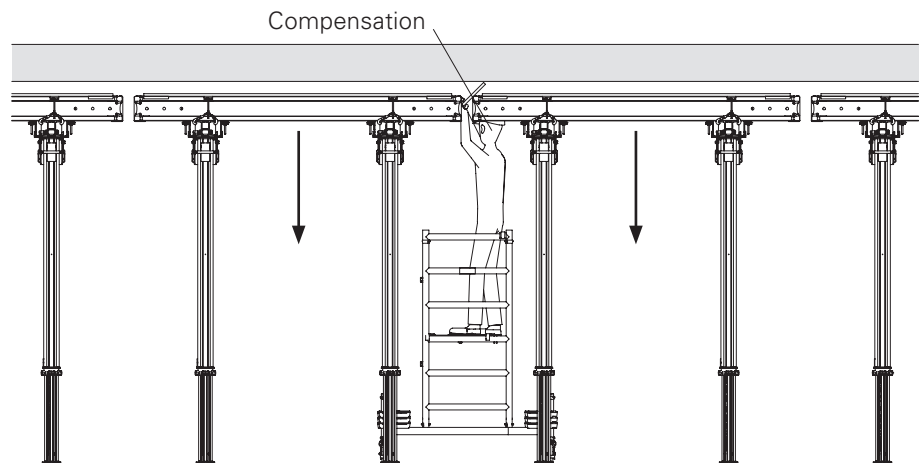
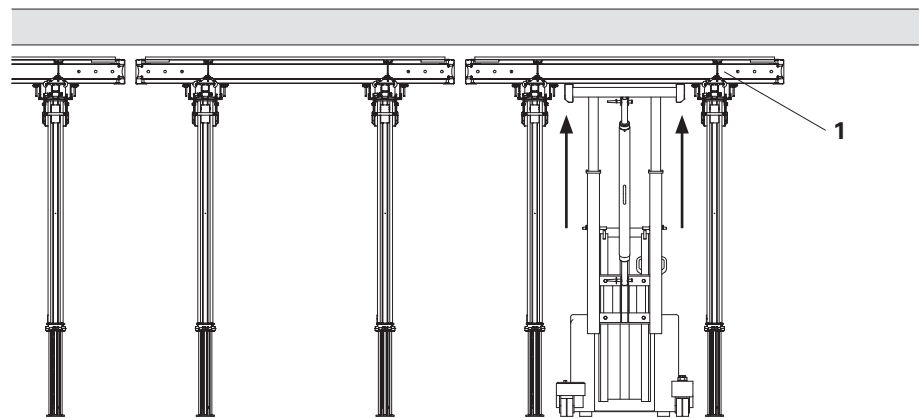

Fig. A8.02
Fig. A8.03
2. Remove infills. (Fig. A8.02)
3. Position the Table Trolley under the slab table (1) in the centre of gravity.
4. Raise the Table Trolley until the slab table (1) is resting on it. (Fig. A8.03)